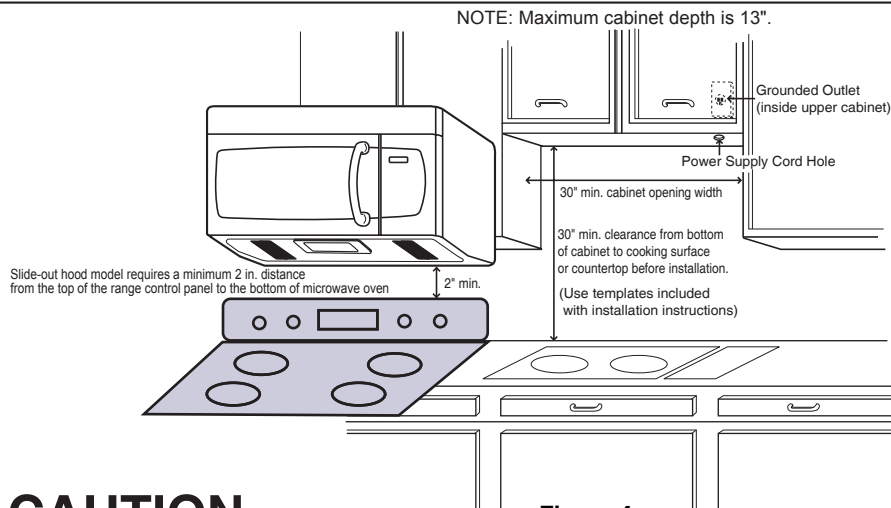

Figure 4
- BE SURE you have enough space. See Figure 4 below for minimum vertical and horizontal clearance.